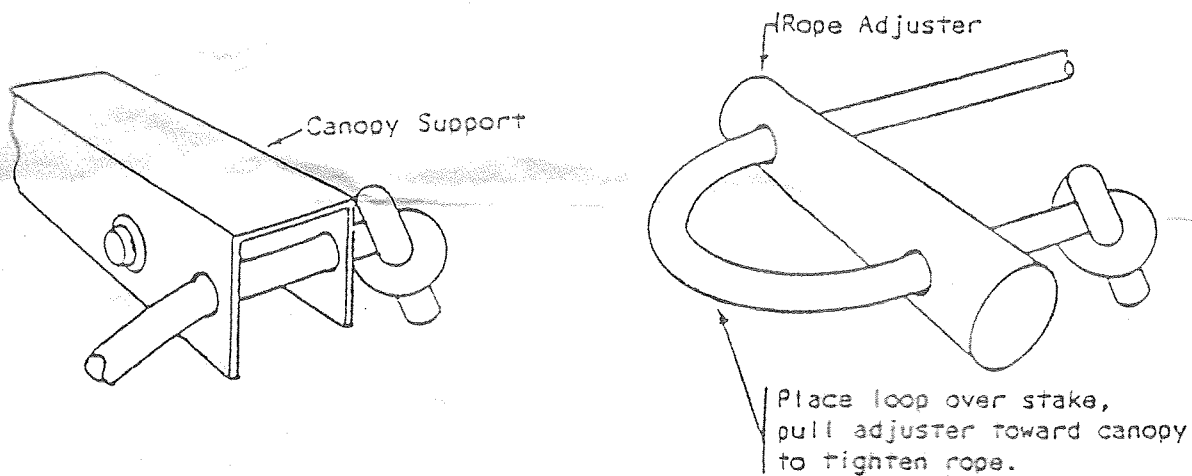

FIGURE 3
4. Install one rope adjuster (4724B393) to each rope end and thread the opposite end of rope through the hole located at each end of the canopy support channel. See Figure 3.